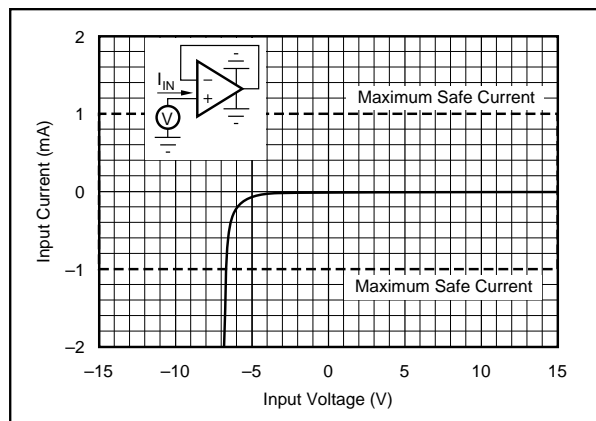

FIGURE 2. Input Current vs Input Voltage with $\pm V_{CC}$ Pins Grounded.
NOTES: (1) Packages must be derated based on $\theta_{JC} = 150^\circ\text{C}/\text{W}$ or $\theta_{JA} = 300^\circ\text{C}/\text{W}$. (2) For supply voltages less than $\pm 18\text{VDC}$, the absolute maximum input voltage is equal to $+18\text{V} > V_{IN} > -V_{CC} - 6\text{V}$. See Figure 2. (3) Short circuit may be to power supply common only. Rating applies to $+25^\circ\text{C}$ ambient. Observe dissipation limit and T_J .